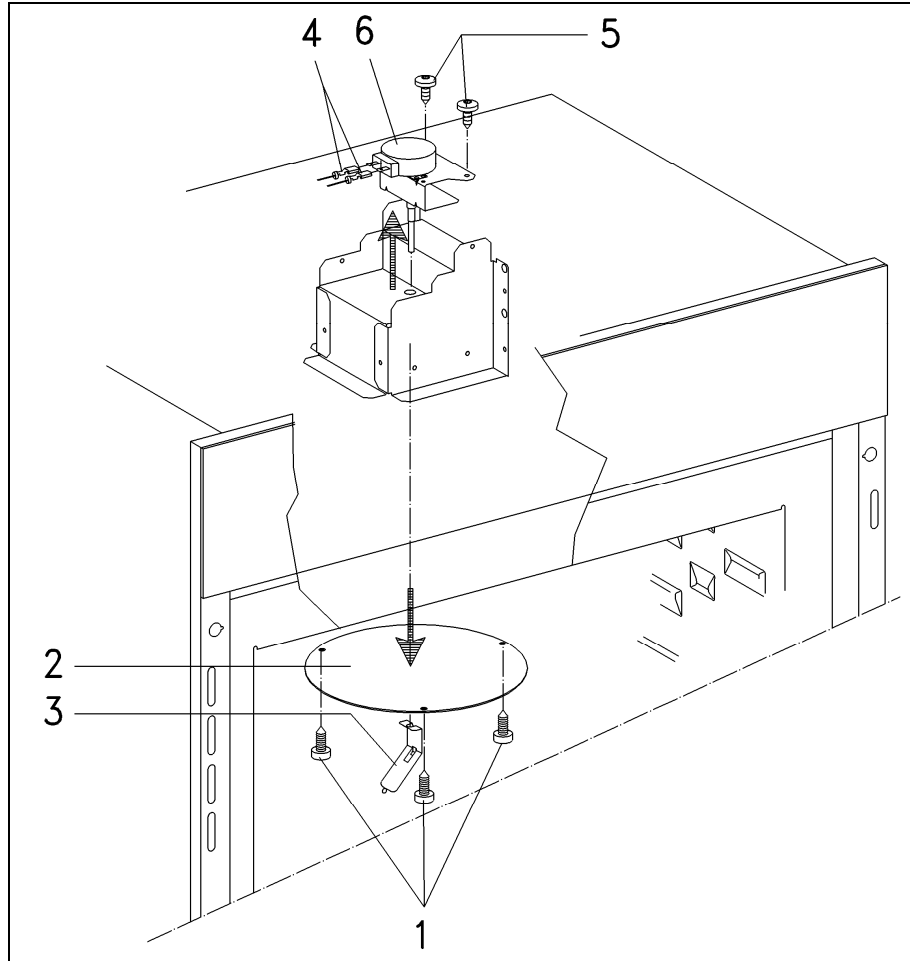

Figure 031-1: Wave Distributor Motor Removal
5. Remove the three T20 screws securing the ceiling cover (Figure 031-1, Item 1).
6. Remove the ceiling cover (Figure 031-1, Item 2).
7. Release the locking tab on the guide plate, then pull the plate down and off its shaft (see Figure 031-1, Item 3).
9. Disconnect the motor connections (Figure 031-1, Item 4).
10. Remove the two T20 screws securing the motor (Figure 031-1, Item 5).
11. Remove the motor (Figure 031-1, Item 6).